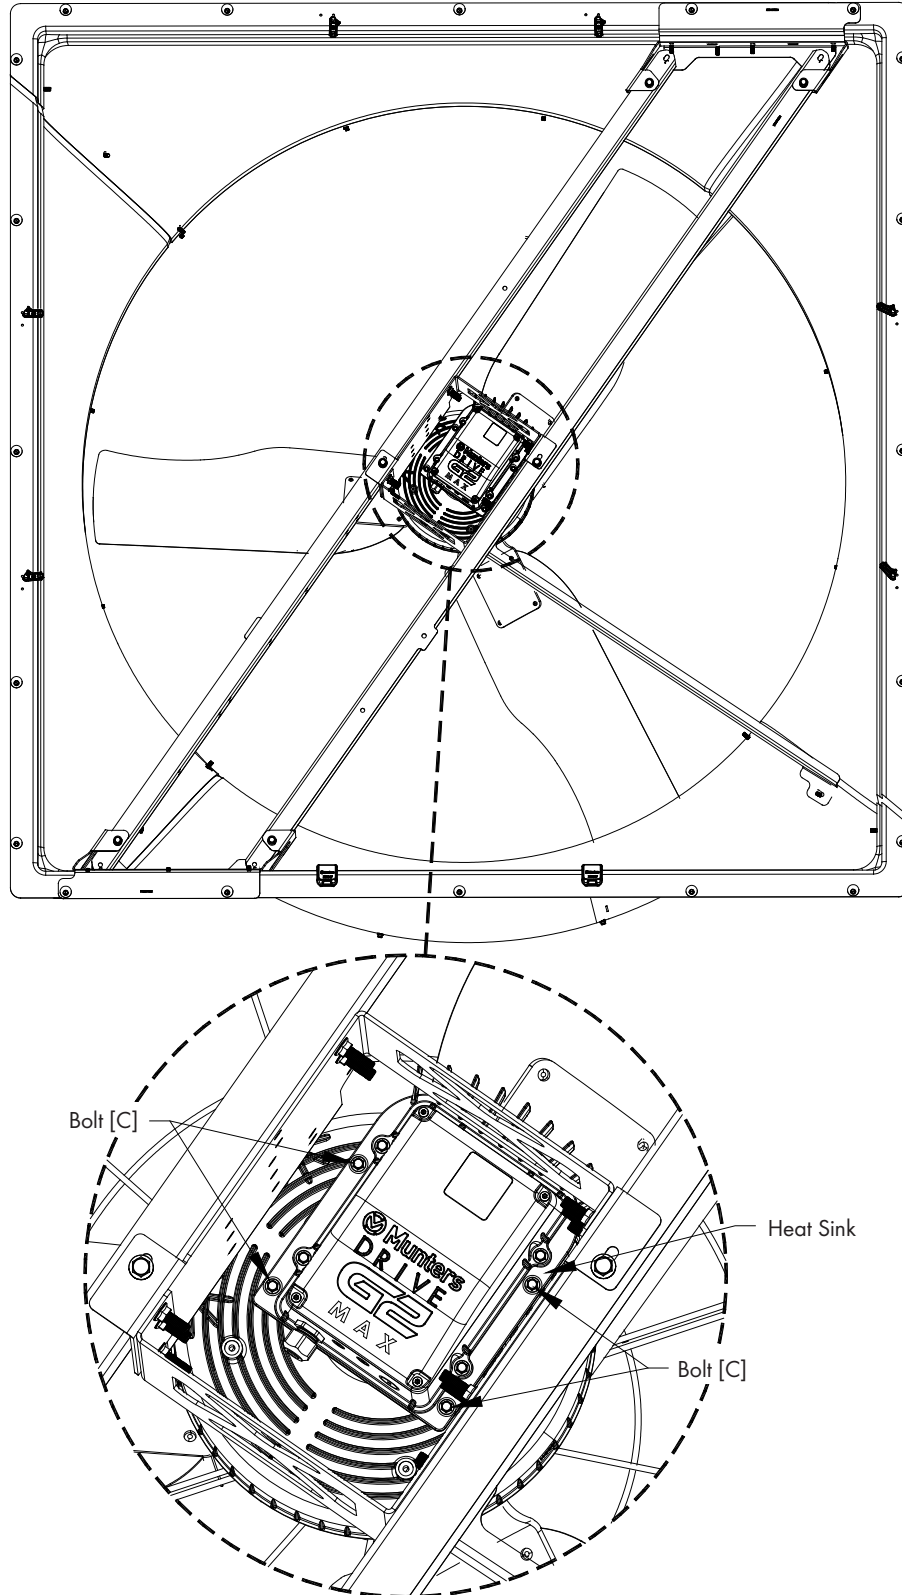

Figure 9
Align the Wiring Entrance and (4) mounting holes in the Heat Sink with the Wiring Entrance and (4) mounting holes in the back of the Munters Drive Motor and secure in place with (4) Bolts [C]. Tighten Bolts to 60 in-lbs. [6.8 Nm] of torque. See Figure 9.